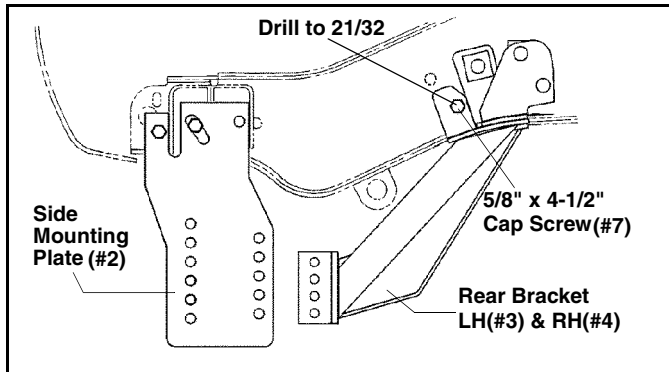

Figure 2
- Front holes: An existing hole for a 5/8" Cap Screw will be present. On some vehicles the power steering pump mounting bolt can be used. On other vehicles a small existing hole will be present. If this occurs, use the hole in the bracket as a template to drill out the hole in the vehicle frame to 21/32". (See figure 2)